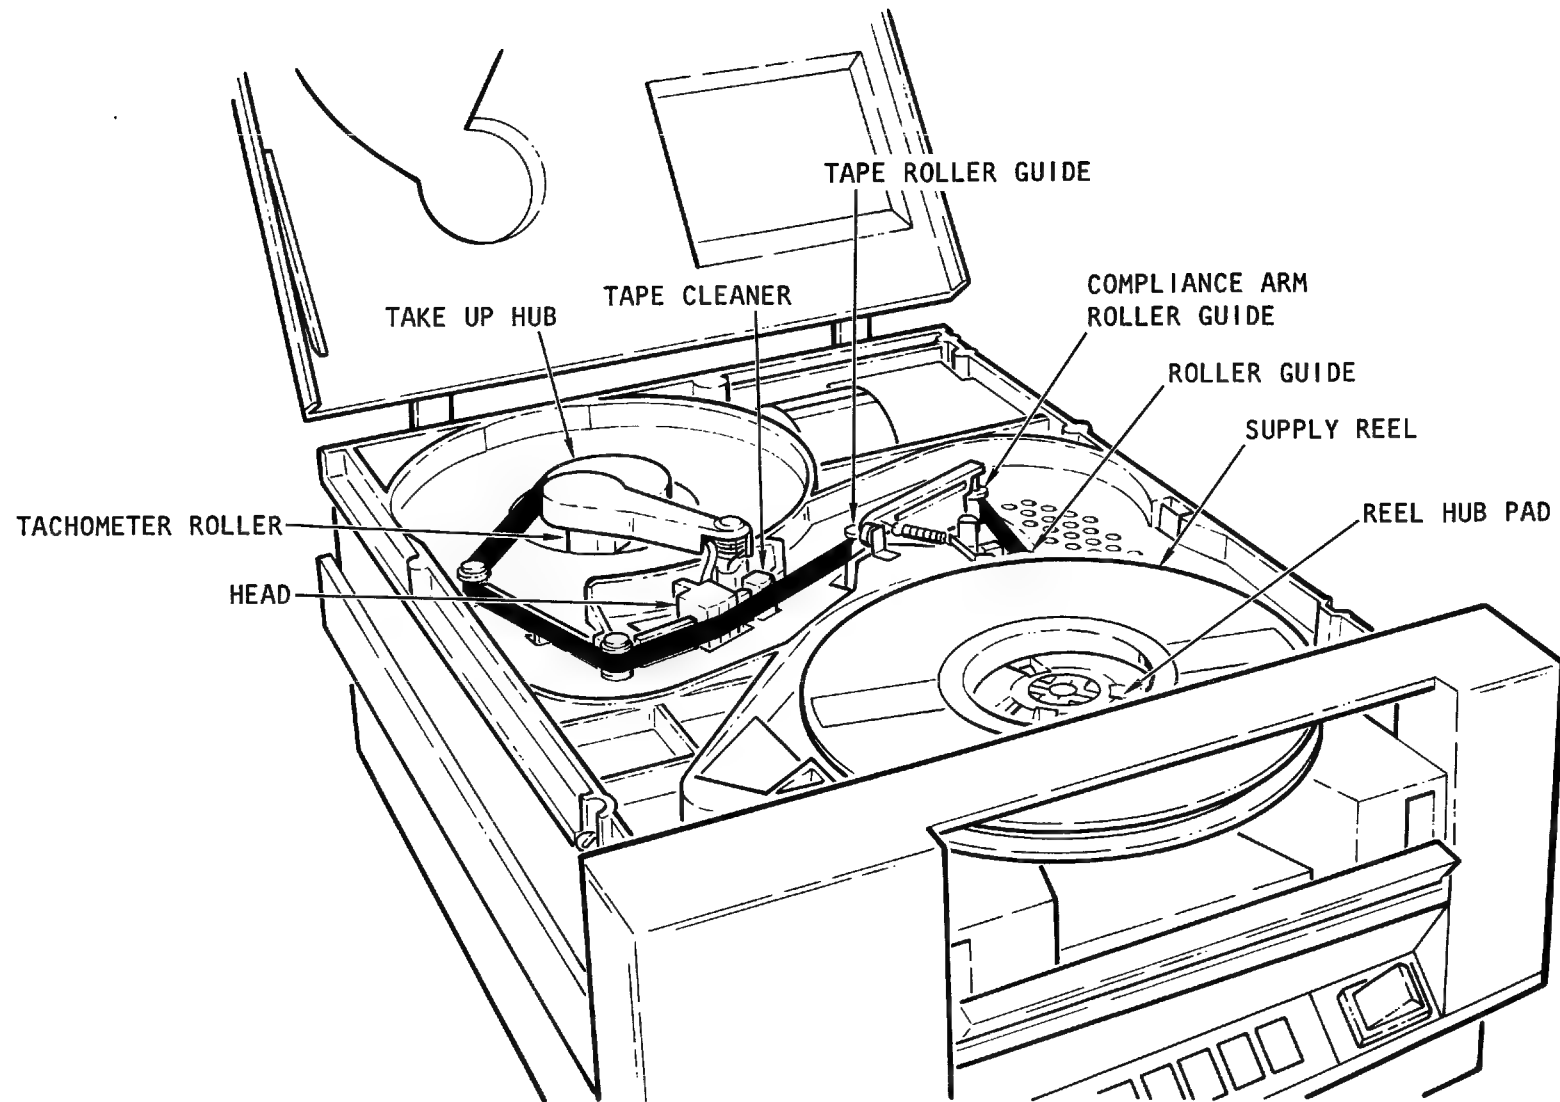

Figure 4-3. Tape Path and Related Parts
**4-4.** For routine cleaning, place the MTSU in the operator maintenance access position. Figure 4-3 identifies by number the locations of items that require routine cleaning. The recommended cleaning materials are:
**4-5. Tachometer Roller (8, Figure 4-3).** Use a swab moistened with tape drive cleaner. Gently wipe the entire roller surface. The roller can be rotated by manually turning the take-up hub slowly.
**4-6. Take-Up Hub (9, Figure 4-3).** Use a swab or cloth moistened with tape drive cleaner. Rotate the hub manually while gently wiping the tape wrapping surface.
**4-7. Roller Guides (3, 4 and 5, Figure 4-3).** Use a swab moistened with tape drive cleaner. Rotate each roller and gently wipe the tape contact surface and flanges or washers.
4-8. **Reel Hub Pads (1, Figure 4-3).** Use a swab or cloth moistened with tape drive cleaner. Wipe the contact surface of each pad and remove any debris around the pad.
4-9. **Head (7, Figure 4-3).** Use a swab or cloth moistened with tape drive cleaner. Wipe the entire face of the head and attached erase bar, paying particular attention to the recessed areas.
4-10. **Tape Cleaner (6, Figure 4-3).** Use a swab moistened with tape drive cleaner. Wipe each blade along its length. Remove accumulated oxides from the recessed area between the blades.
4-12. **Top Plate Casting.** Use a cloth moistened with plastic cleaner. Referring to Figure 4-3, wipe away the oxide dust in the tape path area. Be careful not to get dirt on the head, rollers, etc. Avoid disturbing the sensors.